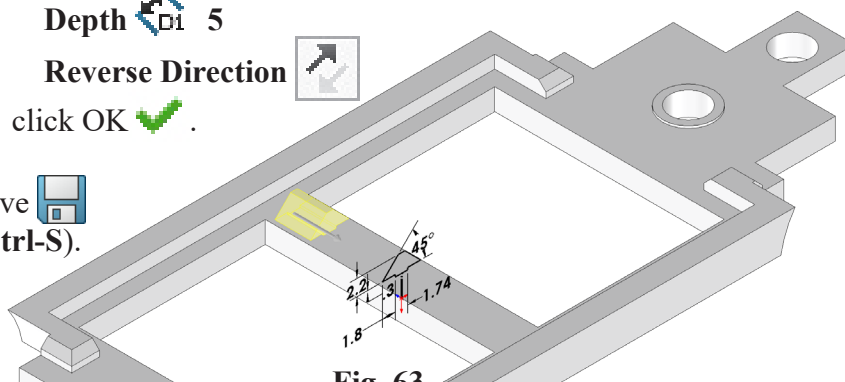

Fig. 63
Step 13. Rotate view to Isometric 180°, Fig. 63. To rotate view, click **Isometric** on the Standard Views toolbar (Ctrl-7), then **Shift click** the **Z** axis of the Reference Triad two times.